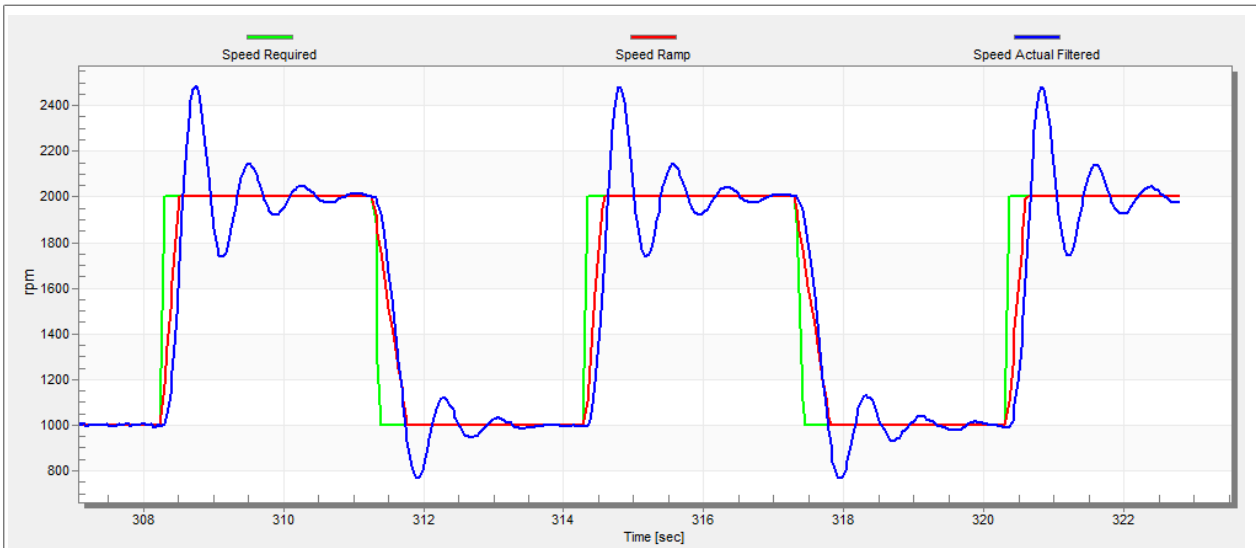

Figure 25. Speed controller response—SL_Kp value is low, Speed Actual Filtered greatly overshoots
- The “SL_Kp” value is low, the “Speed Actual Filtered” greatly overshoots, and the long settling time is unwanted (see Figure 25).